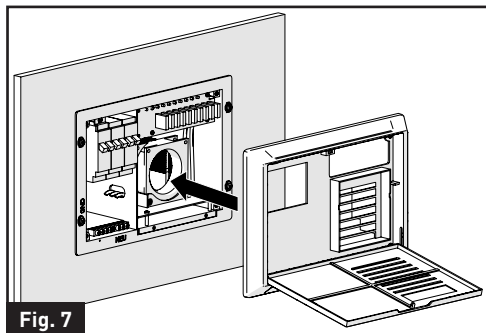
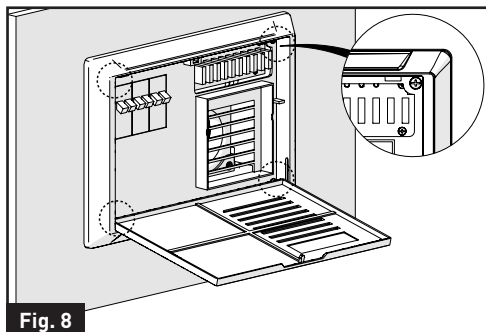

Fig. 7
Fig. 8
8. Replace the housing to the power center and tighten the screws at the four corners. (Fig. 7 and Fig. 8)